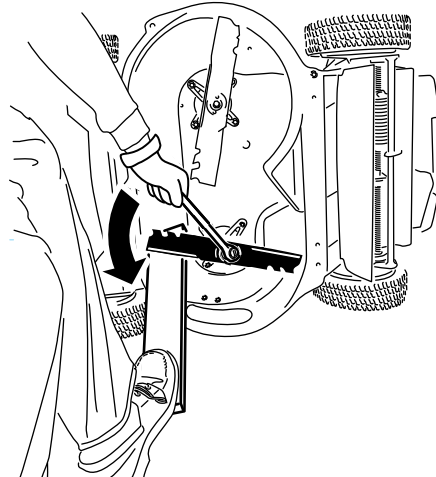

Figure 41
1. Use a block of wood to hold each blade steady and turn the blade bolt counterclockwise as shown in Figure 41.